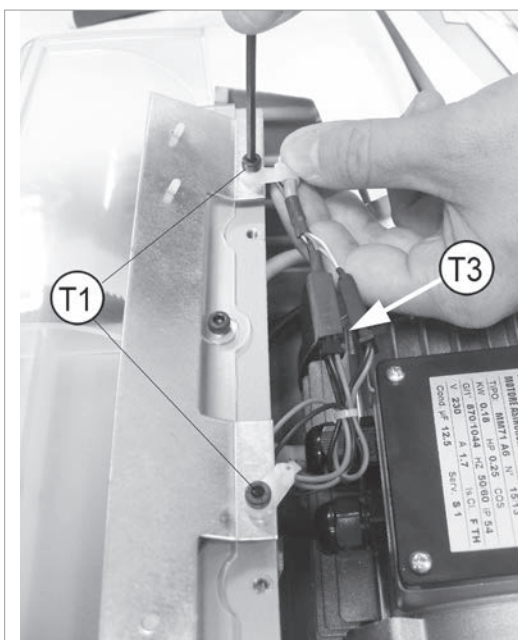

Fig.81
- 3) Loosen the 2 screws (T1) on the lamp support (Fig.81).